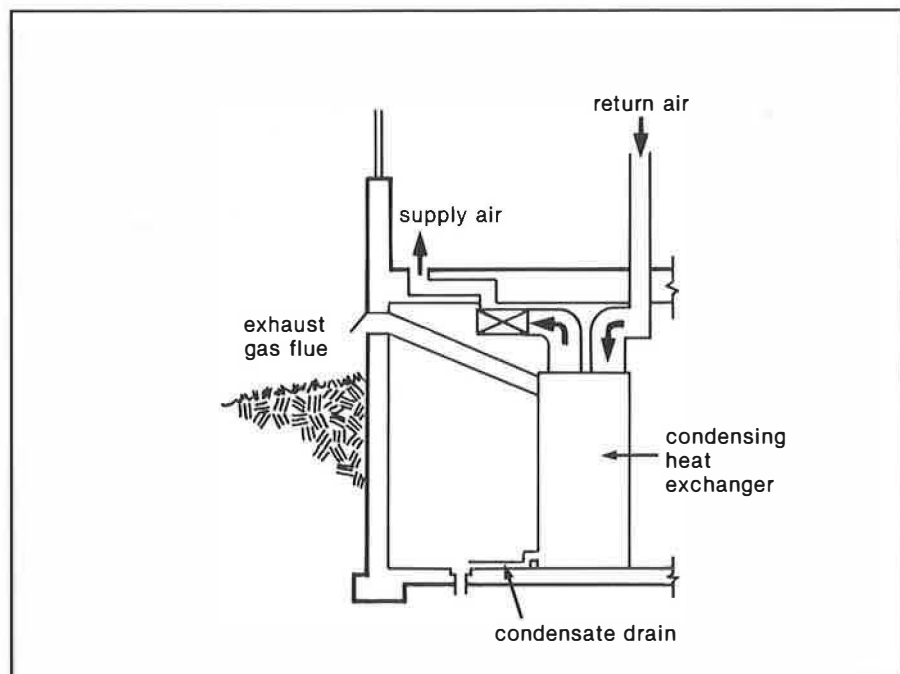

Fig. 17. High-efficiency furnace.
- Use a heating system which requires little or no combustion air; for example: electric baseboards, electric forced air, high-efficiency condensing gas furnaces. The additional costs of high-efficiency furnaces are largely offset by the savings in not having to construct a chimney (fig. 17).